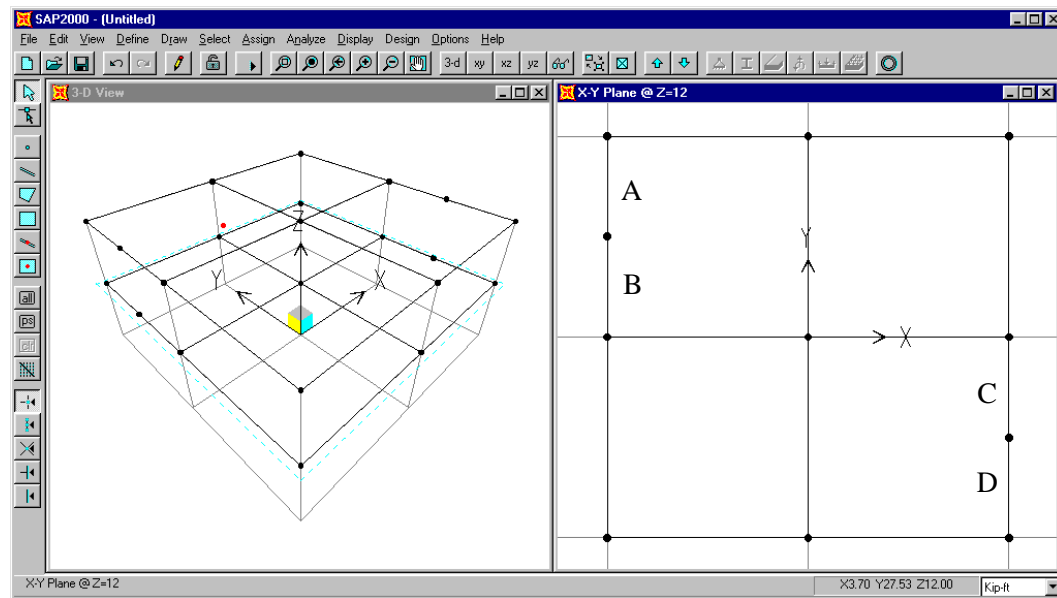

Figure C-12: Model After All Roof Level Beams Copied To Second Level
23. Click the **Down One Gridline** button  on the main toolbar to display the plan view at the second floor level, Z=12. Note the window title changes to X-Y Plane @ Z=12. The model now appears as shown in Figure C-12.
24. Click the second level beams labeled “A” and “B” in Figure C-12 to select them.
28. Click the second level beams labeled “C” and “D” in Figure C-12 to select them. From the **Edit** menu select **Join Frames** to combine these two elements into a single element.
Note: If you wanted to, at this point you could just click on point C in Figure C-12 to draw the second brace element. If we were to do that, the start point for the brace would be at the top (point B) and the bottom point would be at